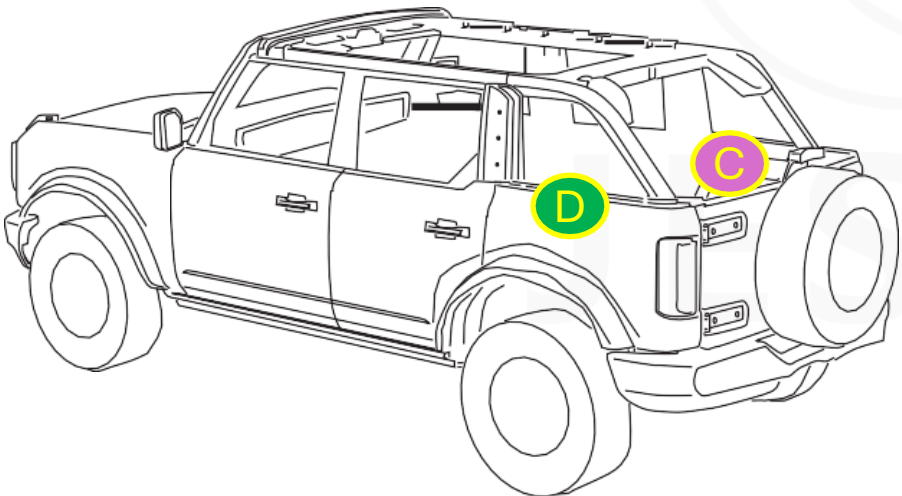

图2 Figure2
1. 折叠状态解锁（图3&图4）：根据图2箭头的位置往下按压左右两侧同时解锁；解锁完成后，左侧人员左手在位置C,右手在位置D（图4），右侧人员也是同样操作，2人同时往上抬升软顶，到达图3的位置，再左右同时往下按压使B处位置（两侧）处于锁紧状态。
Unlock in folded state (Figure 3 & Figure 4): Press down on both sides according to the position of the arrow in Figure 2 to unlock at the same time; after unlocking, the person on the left has his left hand in position C and his right hand in position D (Figure 4), and the person on the right does the same. Both people lift the soft top up at the same time to the position in Figure 3, and then press down on both sides at the same time to lock position B (Both sides).